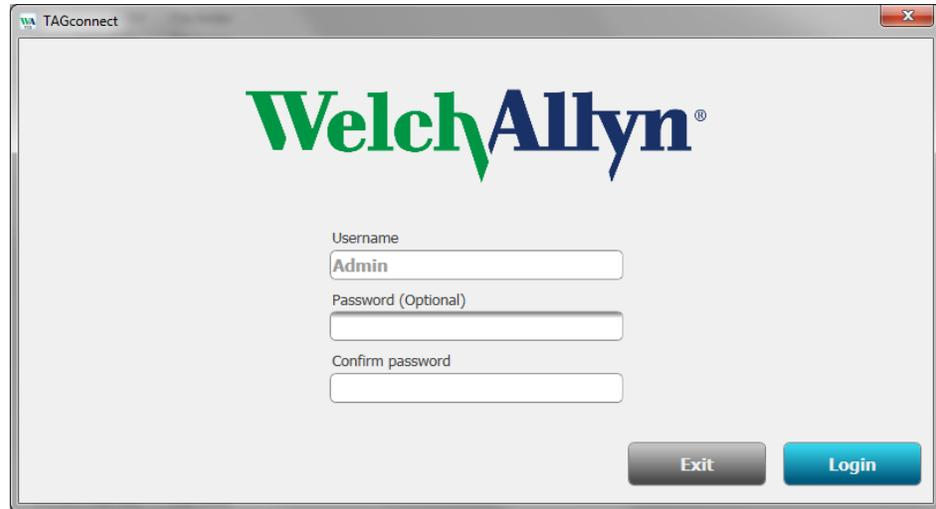

Figure 4.1. Administrative Log-in screen.
The first time you start TAGconnect following installation (See Section 2.4) the Administrative Log-in screen will be presented. See Figure 4.1.
**New login profile name.** This will be the User name entered for login, see Figure 4.1. Passwords are not required, but are supported. User authentication, during login to the PC and/or TAGconnect, is strongly recommended. If desired, add and confirm the Password.